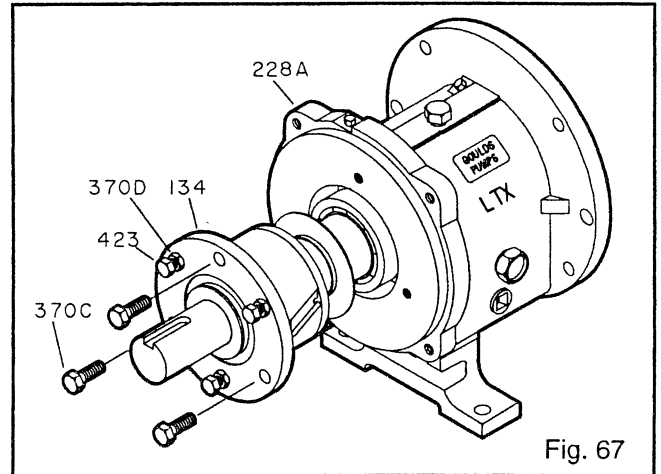

Fig. 67
- Remove clamp screws (370C). Back off jam nuts (423). Tighten jack screws (370D) evenly, this will start bearing housing (134) out of bearing frame (228A) (Fig. 67).